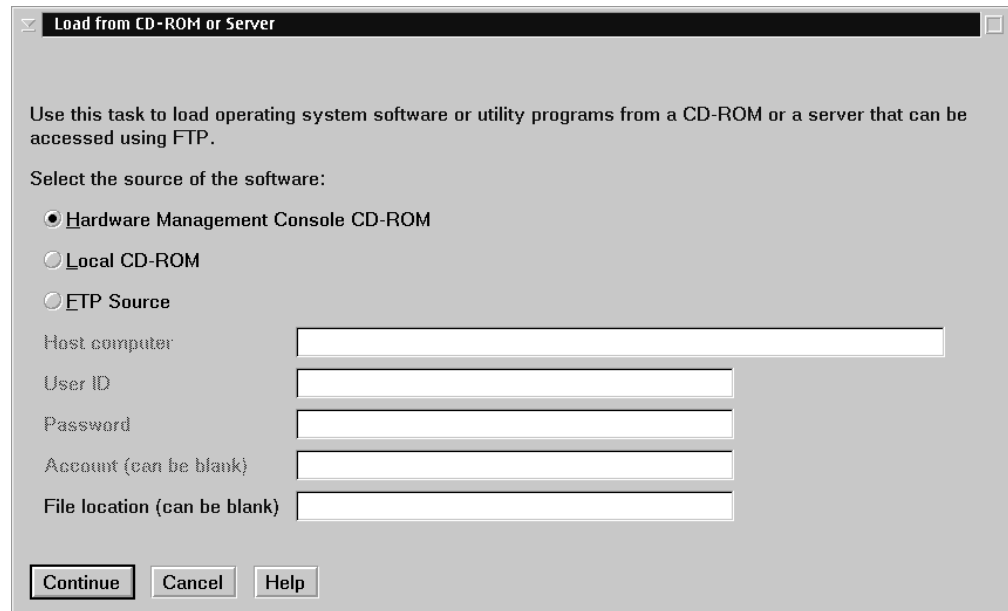

Figure 75. Load from CD-ROM or Server panel
5. Click the “Load from CD-ROM or Server” icon in the Task Area to display the “Load from CD-ROM or Server” panel (Figure 75 on page 371).